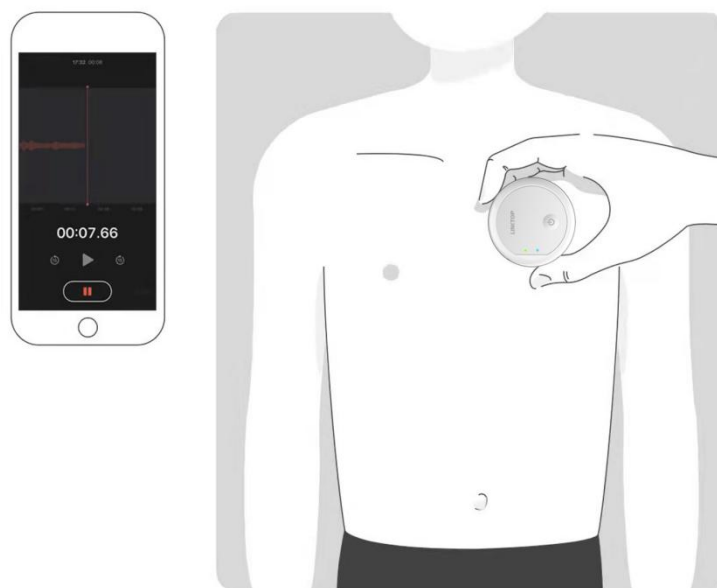

Figure 4
- (2) Please make sure that the Bluetooth of the mobile phone is open, and the stethoscope is turned on.
- (3) Launch the "NexStetho" application, click "Add Device", the application will search for the Bluetooth of the stethoscope until it finds a device with the Bluetooth name "HC-21", select and connect, the application will automatically bind the stethoscope.
- (4) Use the application to select the auscultation mode and confirm whether to use the heart sound auscultation or lung sound auscultation mode.
- (5) Select the auscultation site and confirm whether to auscultate the lung or the heart.
- (6) Putting the stethoscope membrane (Figure 4) to the patient's body at specific spots indicated by the doctor, and holding it at each spot, click the start button in the application to record until the auscultation time is sufficient, click the stop button to end the recording.